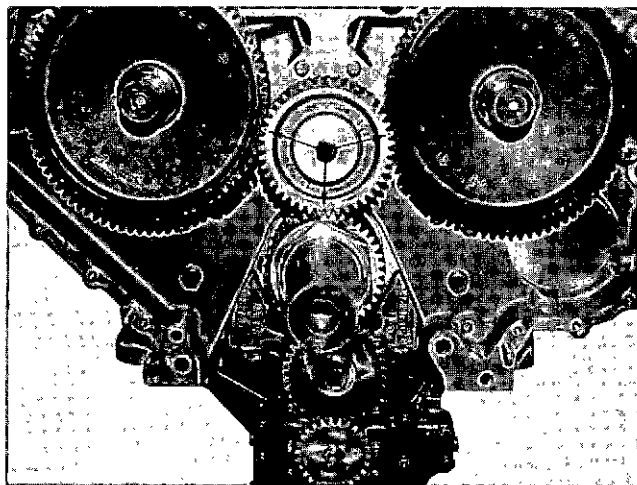

Fig. 14-1-34, V414136. Gear train timing marks
3. Slide the two camshafts into position with two "O" marks on each camshaft gear aligned with "O" mark on each side of idler gear. Fig. 14-1-34.